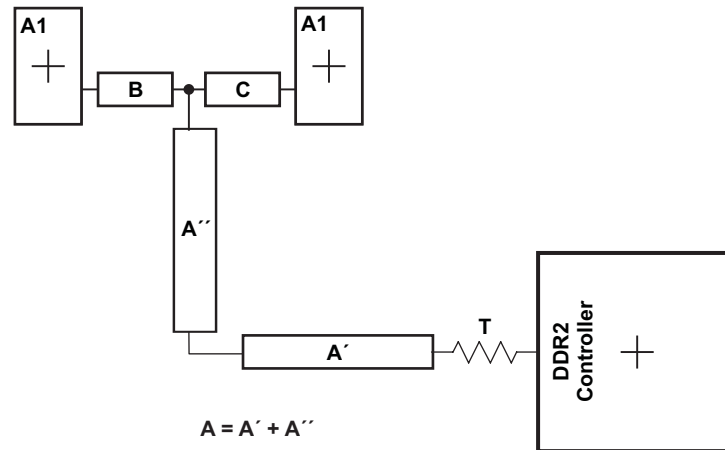

Figure 8-54. CK and ADDR_CTRL Routing and Topology
Figure 8-54 shows the topology of the routing for the CK and ADDR_CTRL net classes. The route is a balanced T as it is intended that the length of segments B and C be equal. In addition, the length of A ($A'+A''$) should be maximized.
(1) The length of segment $A = A' + A''$ as shown in Figure 8-54.
(2) Series terminator, if used, should be located closest to the device.
(3) Center-to-center spacing is allowed to fall to minimum (2w) for up to 500 mils of routed length to accommodate BGA escape and routing congestion.
(4) CACLM is the longest Manhattan distance of the CK and ADDR_CTRL net classes.